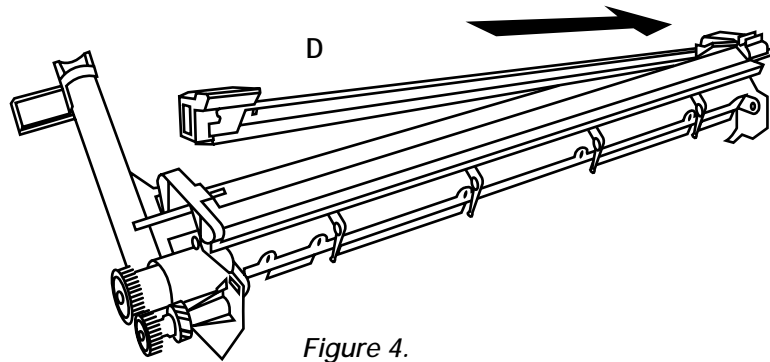

Figure 4.
12. Reinstall the charge corona assembly (D) by inserting the right end into the unit first (see figure 4). Align the two plastic end tabs and the center metal tab with their appropriate slots, and slide the unit to the right to engage the tabs. Reinstall the two screws removed in step 4.